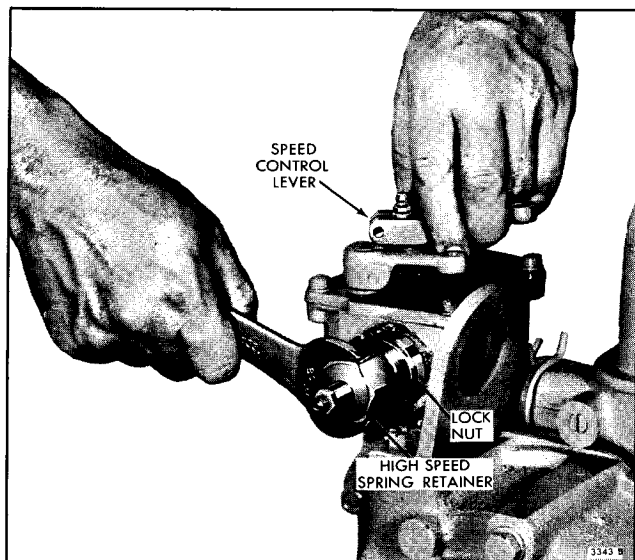

Fig. 3 - Adjusting Maximum No-Load Engine Speed
1. Loosen the lock nut, Fig. 3, and back off the high speed spring retainer approximately five turns.